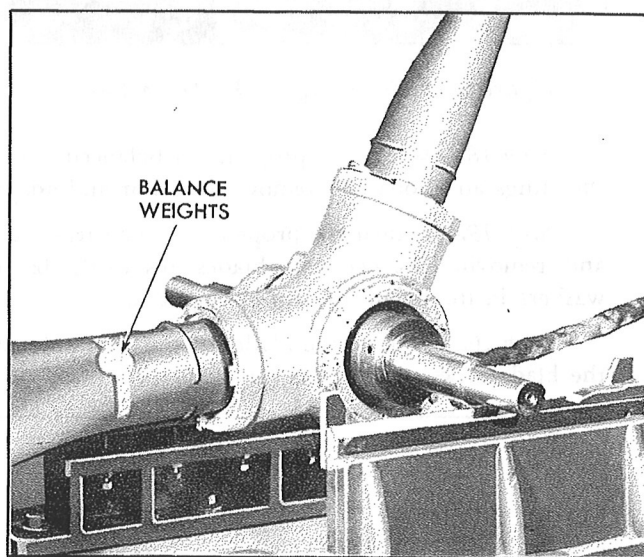

Figure 220—Balancing the Propeller Horizontally
*Step 17.*—Using masking or other light tape, attach sufficient blade balance washers to the light blade or blades at a point four inches out from the cuff ring until the propeller shows little tendency to rotate. See Figure 220.